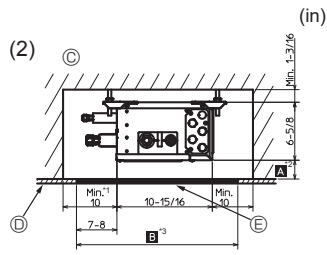
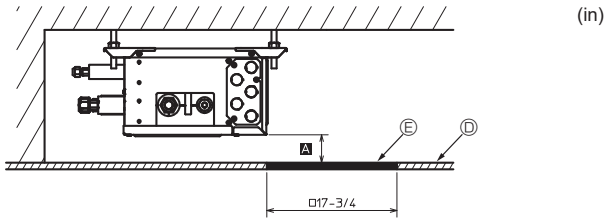

Fig. 4-8
Fig. 4-9
(2) Side View (Fig. 4-8, Fig. 4-9)
In the case of "□ 17-3/4 in (450 mm)", prepare a maintenance hole at a PCB side (as it is shown in Fig. 4-9), and "Min. 11-13/16 in (300 mm)" is needed as distance **A**.